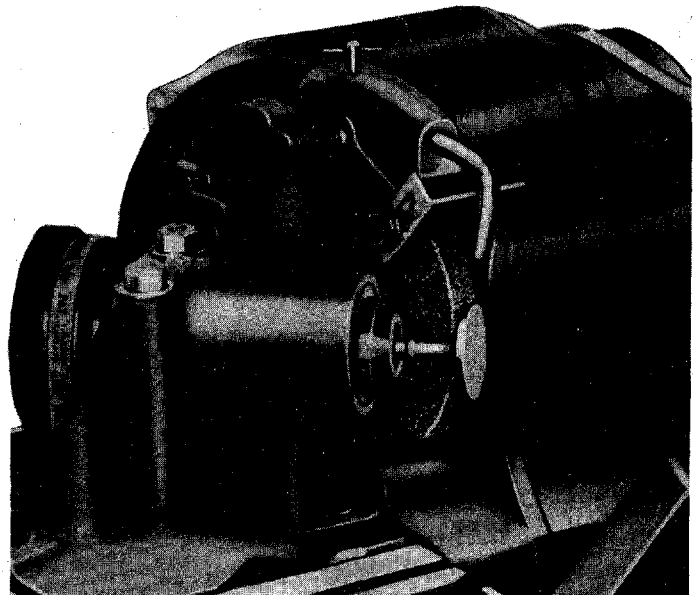

Fig. 29—Refacing Valve
(5) **REFACING VALVES.** Grind valve face 45 degrees on a valve refacing machine as shown in fig. 29. Replace valve if the edge of the valve head is less than $\frac{1}{32}$ inch thick after grinding.